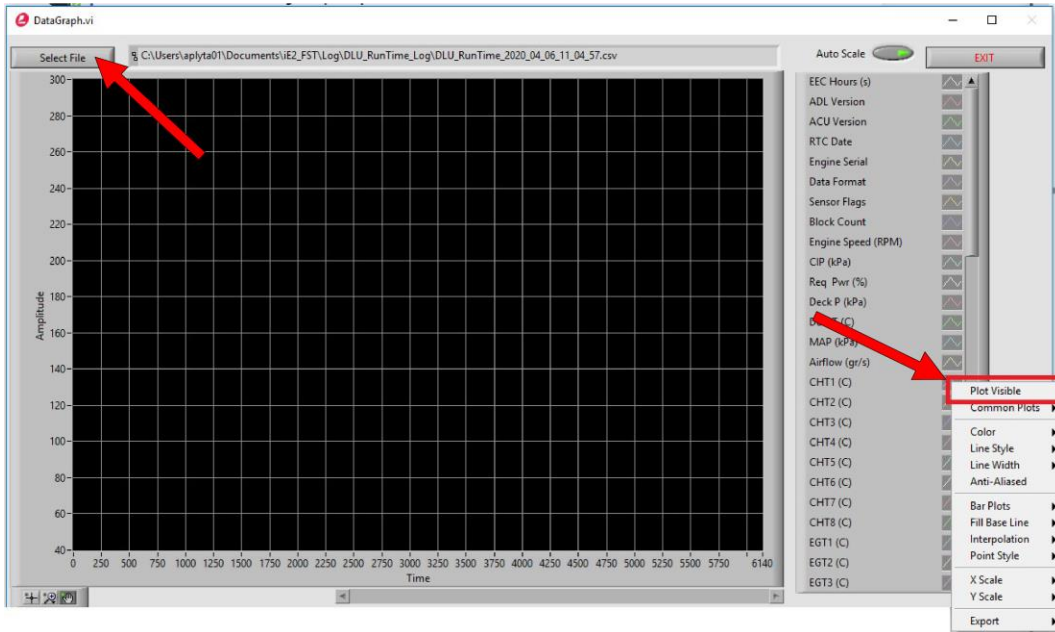

Figure 17
4. Click the “Select File” button (Figure 17) to open the file for path selection and select a runtime file.
6. Click the “Plot Visible” button on the drop-down menu (Figure 17).